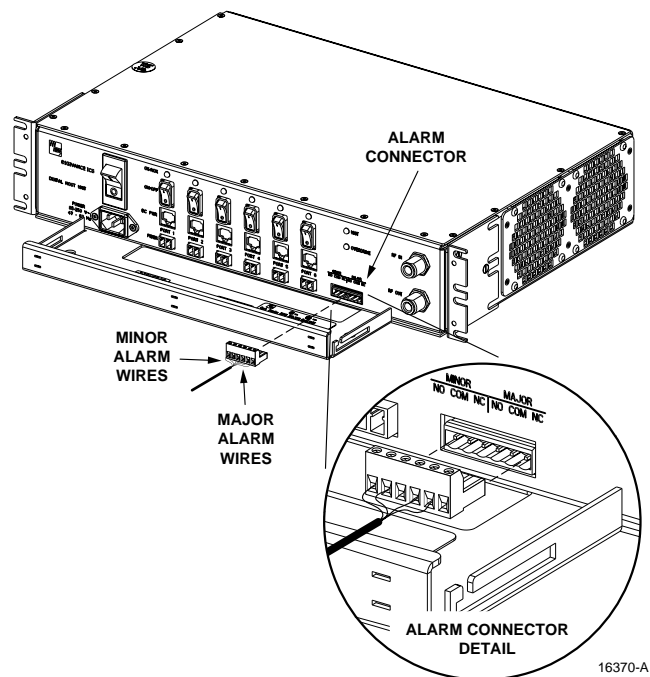

Figure 22. External Alarm System Connections
4. Connect the Major alarm wire pair to the **MAJOR COM/NC** or **MAJOR COM/NO** terminals (whichever is required by the external alarm system) on the DHU alarm terminal connector (supplied with DHU) as shown in Figure 22.
5. Connect the Minor alarm wire pair to the **MINOR COM/NC** or **MINOR COM/NO** terminals (whichever is required by the external alarm system) on the DHU alarm terminal connector as shown in Figure 22.